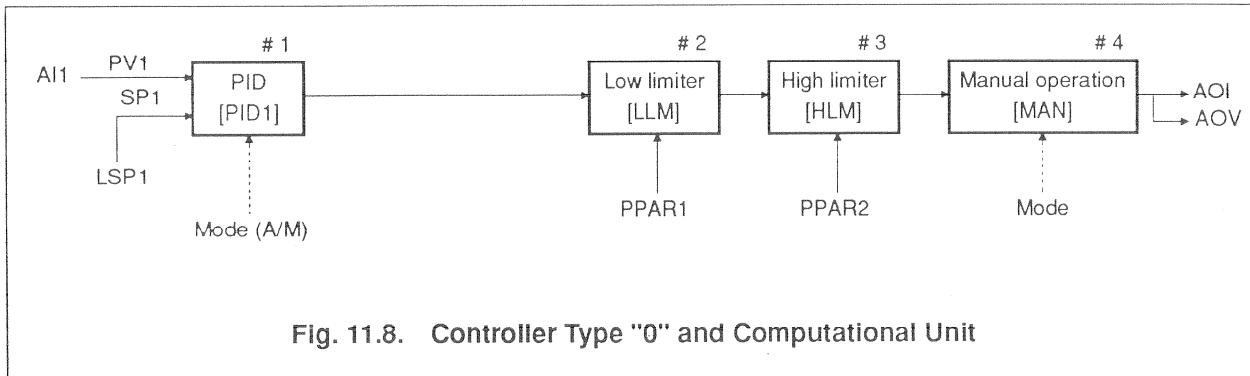

Fig. 11.8. Controller Type "0" and Computational Unit
- (1) PPAR1: Low output limit value. A value setting to the algorithm [LLM (low limiter)] in Fig. 11.8.
- (2) PPAR2: High output limit value. A value setting to the algorithm [HLM (high limiter)] in Fig. 11.8.